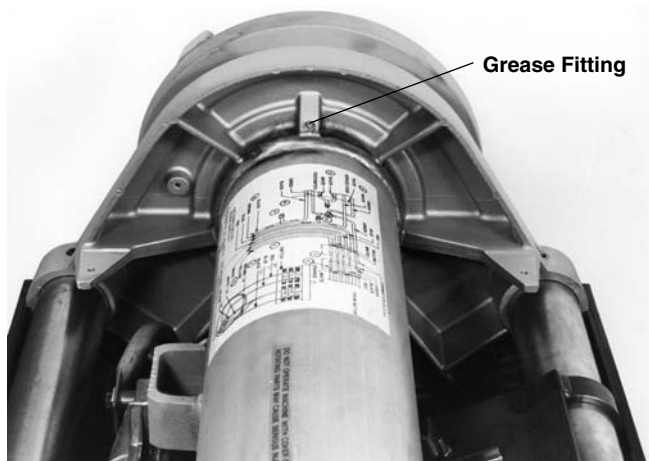

Figure 24 – Greasing Main Shaft Bearings
1. Remove four (4) cover screws and remove cover.
2. Use grease gun to apply grease to the shaft bearing (Figure 24). Grease fittings every 2 to 6 months, depending upon amount of machine use.